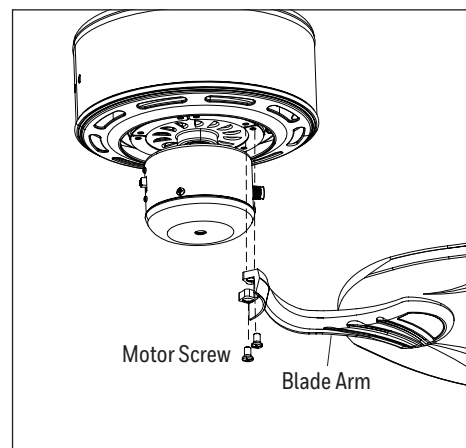

Figure 5.6
6. Install the blade arm to the underside of the motor assembly using the ten previously removed motor screws (Figure 5.6).
7. Attach the pull chain extensions to the pull chains (Figure 5.6).